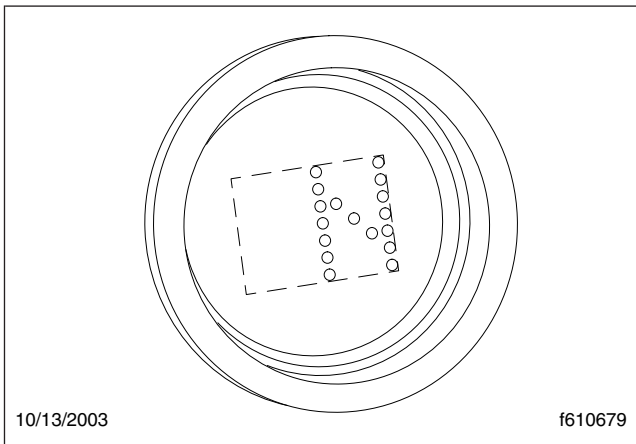

Fig. 15.5, Gear Indicator: Neutral
3. Wait for the gear indicator to show a solid N. See Fig. 15.5. When the N is solid (not flashing), the TCU is powered up. Apply the service brake and start the engine.
N is located directly below R on the four-position gear selector switch on the SmartShift control lever. To select N, move the gear selector switch to the position below R. When neutral is selected, the letter N displays on the gear indicator. See Fig. 15.5.